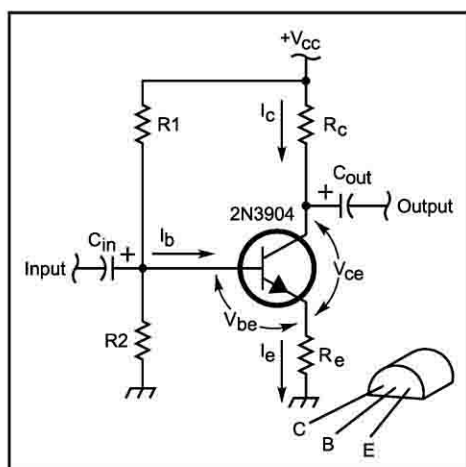

Figure 1—The common-emitter amplifier.
The CE amplifier (Figure 1) is used when modest voltage gain is required along with an input impedance (the impedance seen by the circuit supplying the signal to be amplified) of a few k Ω or more. The output of the CE amplifier is inverted from its input. (We call this 180° of phase shift.) As the input signal swings positive, more current flows into the transistor's base, which also causes more current to flow from the collector to the emitter. This causes more voltage drop across R_c and so the voltage at the collector also drops. The reverse is true when the input signal swings negative.
Figure 1 shows capacitors at the input (C_{in}) and output (C_{out}). This is called an "ac coupled" design. The capacitors block the flow of dc current to the load or to the circuit driving the amplifier. These capacitors also cause the gain at very low frequencies to be reduced, as the impedance of a capacitor increases at low frequencies—hence the gain at dc is zero. For this experiment, all capacitors will be 10 μ F—a value large enough to act as a short-circuit for most audio signals. If polarized capacitors are used, the positive side should be connected to the circuit.
The effects are most easily seen in band-pass filters because requirements for steep filter "skirts" and narrow bandwidths require a lot of gain. Why do they require a lot of gain? Let's take a look at the multiple-feedback band-pass filter in Figure 1.¹ (This design was created by Jim Tonne, W4ENE, using the professional-level version of his *ELSIE* filter design software.²) It shows a two-pole band-pass filter with a center frequency, f_0 , of 10 kHz and a bandwidth, BW, of 1 kHz. Thus, the filter's Q is
Figure 1 — Schematic of a two pole multiple feedback band-pass filter with a center frequency of 10 kHz and bandwidth of 1 kHz for a Q of 10. (A) shows the design for an ideal op-amp while (B) provides adjustments needed for practical op-amp performance (see text).